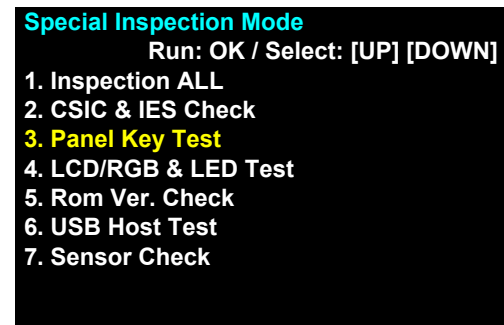

Figure 8-32. Touch Panel Operation Check (2)
Once the Touch Panel Operation Check starts, you cannot go back to the menu screen of the special inspection mode (Fig. 8-32) until all the inspections are complete.
6. Press [Back] to return to the menu screen (Fig. 8-32), and turn off the Artisan 725/PX720WD/TX720WD.